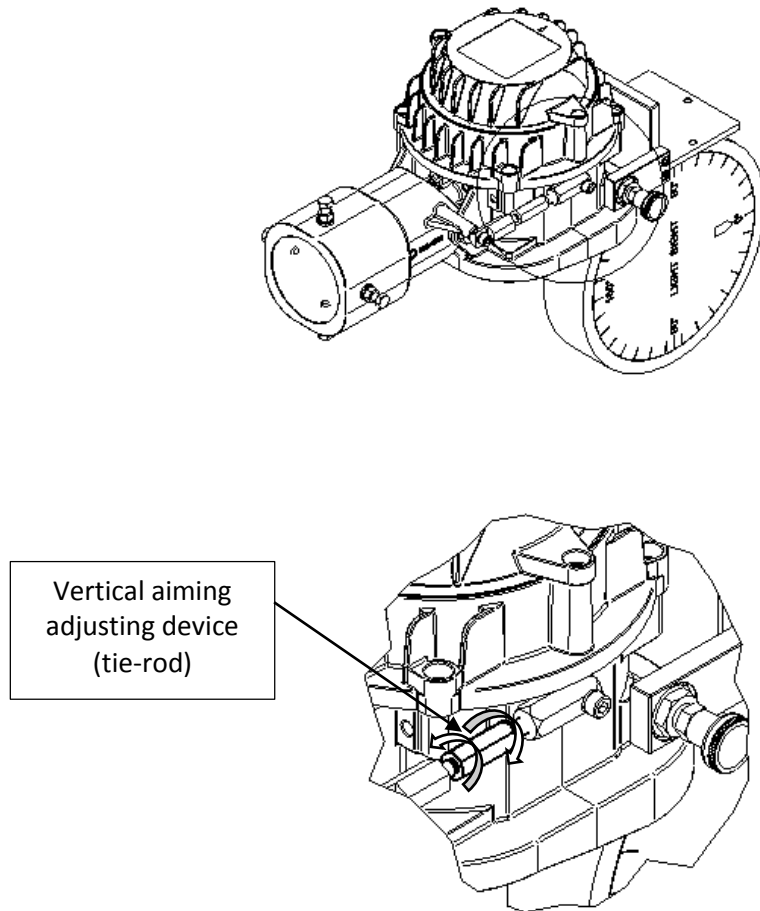

Figure 5: vertical aiming adjustment
Figure 5: vertical aiming adjustment	8
3. Operate the vertical aiming adjusting device (tie-rod) (fig. 5) until the light sight in free-wheeling mode reads the required angle.